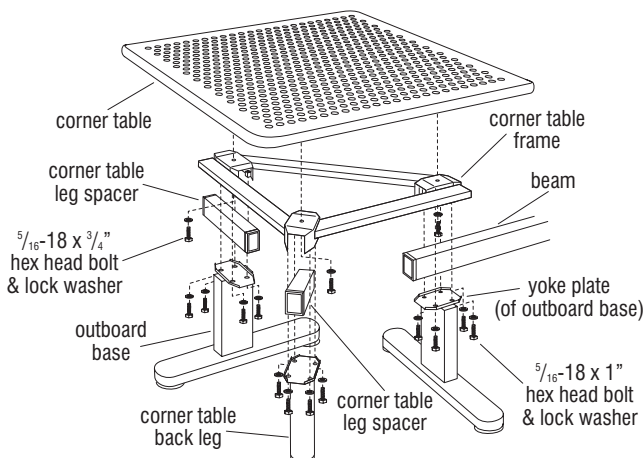

Figure 5
connect one corner table is to be attached, rest the beam onto the "yoke plate" of the outboard base. Refer to the space planning layout to determine how much of the beam should extend beyond the outboard base (Figure 5).
3. Using four  $\frac{5}{16}$ -18 x 1" hex head bolts and lock washers, attach the corner table back leg to the corner table frame with a corner table leg spacer sandwiched between. Tighten bolts diagonally (Figure 5).
5. Turn the corner table assembly over and set the "yoke" of the table frame over the beam and outboard base. Attach the base to the corner table frame with four  $\frac{5}{16}$ -18 x 1" hex head bolts and lock washers. Do not tighten at this time (Figure 5).
6. Make final spacing adjustments to chair, bench or inline tables on the beam. Position any excess beam length under the corner table. Tighten the four  $\frac{5}{16}$ -18 x 1" hex head bolts and lock washers (Figure 5).